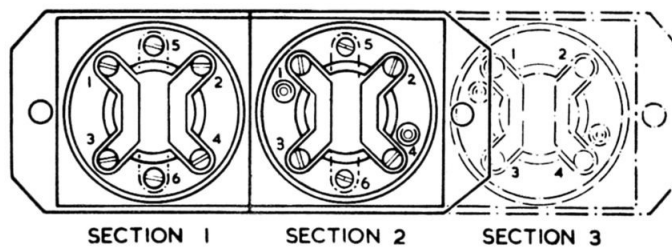

Fig. 3. Terminal arrangement
fig. 3, for either two or three-unit switches. Terminals 5 and 6 will appear only on sections incorporating the locking mechanism. Each switch is fitted with a synthetic rubber grommet, the tip of the sleeves being cut off as required on installation. Lock sections may be fitted with a mu-metal shield to reduce compass interference.
5. The links shown in fig. 3 are fitted on all sections of Type C5183Y, Mk. 2. In Type C5183Y, Mk. 1, they are supplied separately for Section 3, in Type C5182Y, Mk. 2, they are omitted from Section 1, and in Type C5183Y, Mk. 3, they are omitted from Section 3.